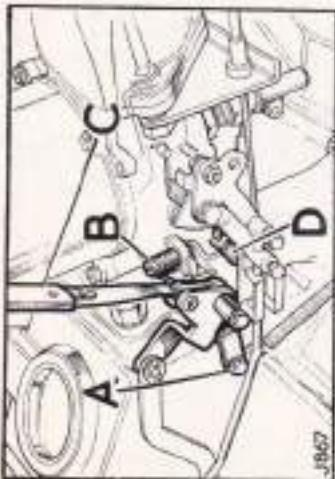
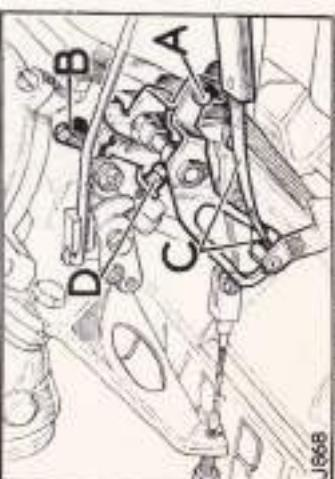

Fig. 8 Throttle lever setting, right-hand viewed from rear
Fig. 9 Throttle lever setting, left hand viewed from rear
3. Slacken screws (A) Fig. 8, securing throttle lever to carburetter lever on each carburetter.
4. Using an approved carburetter throttle balancing device, turn the slow-running adjustment screws (B), Figs. 8 and 9, until an identical reading is obtained on both carburetters at an engine speed of 600/650 rpm. Should a throttle balancing device not be available the synchronisation of the throttle setting can be checked by listening to the 'hiss' of each carburetter either directly or by means of a rubber tube held near the intake. The intensity of the noise should be equal and if one carburetter is louder than the other its throttle adjusting screw (B) should be turned back until the intensity of 'hiss' is equal.
5. Place a .006 in. (0.15 mm) feeler gauge (C) Fig. 8, between the right leg of the fork and the pin on the right-hand carburetter. Apply light pressure to the linkage to hold the feeler, then tighten throttle lever securing screw (A) Figs. 8 and 9.
6. Place a .006 in. (0.15 mm) feeler gauge (C) Fig. 9, between the lower side of the throttle roller and counter shaft lever on the left-hand carburetter. Apply light pressure to the linkage to hold the feeler, then tighten throttle lever securing screw (A) Figs. 8 and 9.
hand carburettor. Apply light pressure to the lever to hold the feeler, then tighten throttle lever securing screw (A) Figs. 8 and 9.
7. The fast-idle screws (D) Figs. 8 and 9, should not require adjustment, however if adjustment becomes necessary pull out the cold start control and speed up the engine slightly. Adjust fast-idle adjustment screws until an identical reading is obtained on both carburettors with the balancing device (or hiss method), at an engine speed of 1,100 rpm. Push the cold start control in again.